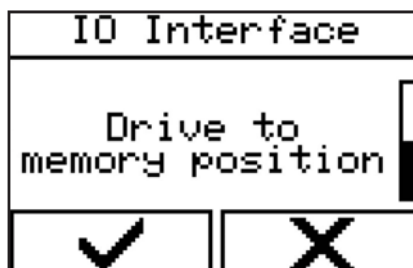

Figure 119 - Selecting a menu
1. Select the menu via 'Control' → 'Memory positions for IO Interface' → 'Drive to memory positions' (Figure 119).